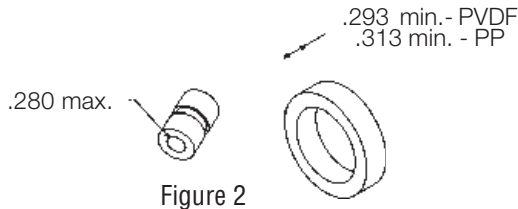

Figure 2
1. Check the impeller drive bushing, thrust ring, ceramic thrust ring and ceramic shaft for cracks, chips, scoring or excess wear. See Figure 2. Replace as required.